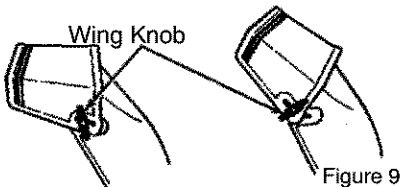

Figure 9
2. Loosen the **wing knob** on the chute deflector and move the deflector to set the distance. Move the deflector (**Up**) for more distance, (**Down**) for less distance. Then tighten the **wing knob** (See Figure 9).